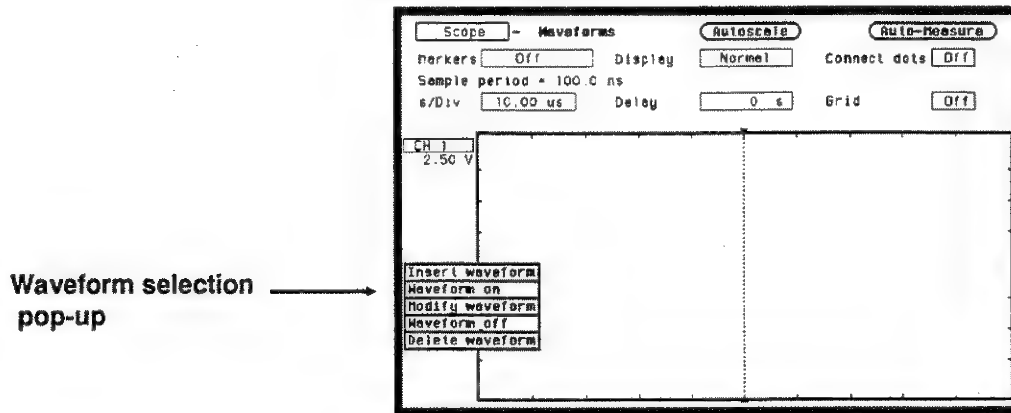

Figure 26-5. Waveform Label Pop-up
2. From the waveform selection pop-up shown in figure 26-5, select **Insert waveform** field.